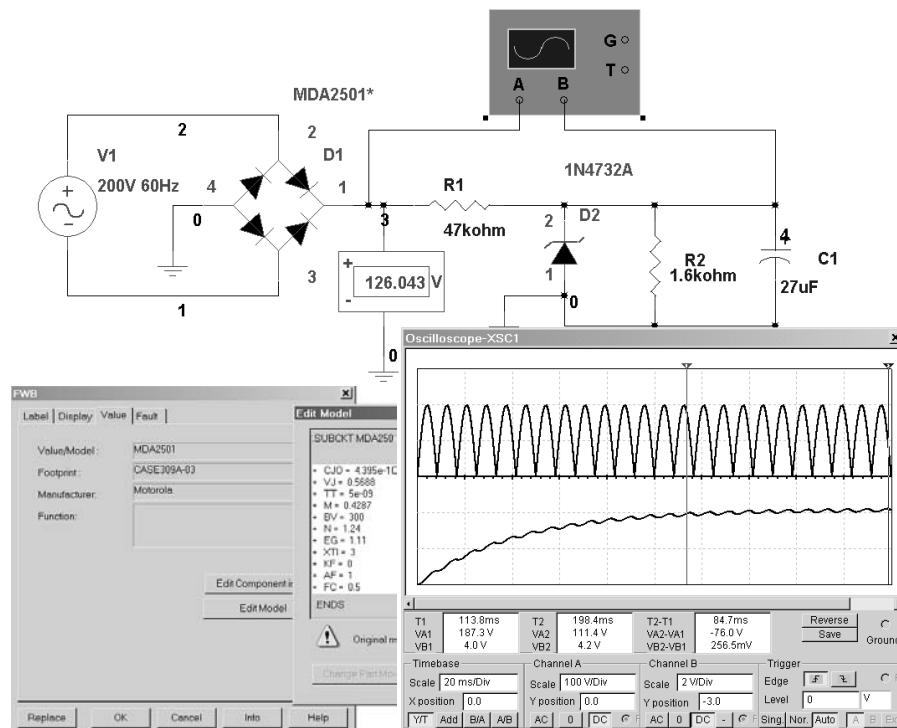

Figure 9-28 Simulation for Example 9-9
2. The setup and the results of the simulation are in Figure 9-28. The diode bridge's model has been edited to change the breakdown voltage, $BV = 300$ V.